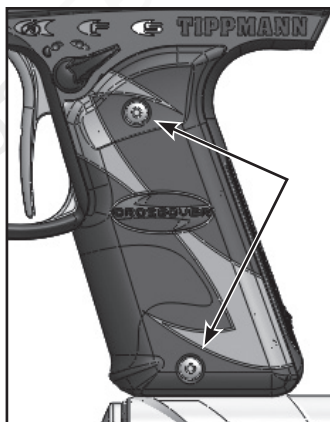

Figure 2: Remove Screws from Left Grip Cover.
- Using the included 5/64" Allen wrench, remove two screws (Figure 2) from the left side Grip Cover.